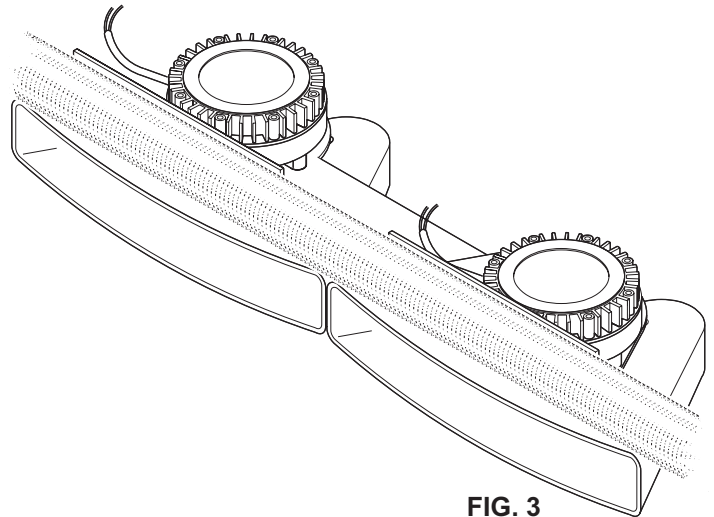

FIG. 3
2. First place the siren (with bracket) onto the mounting location and mark off the 5 mounting holes for the supplied mounting hardware (Fig. 3).